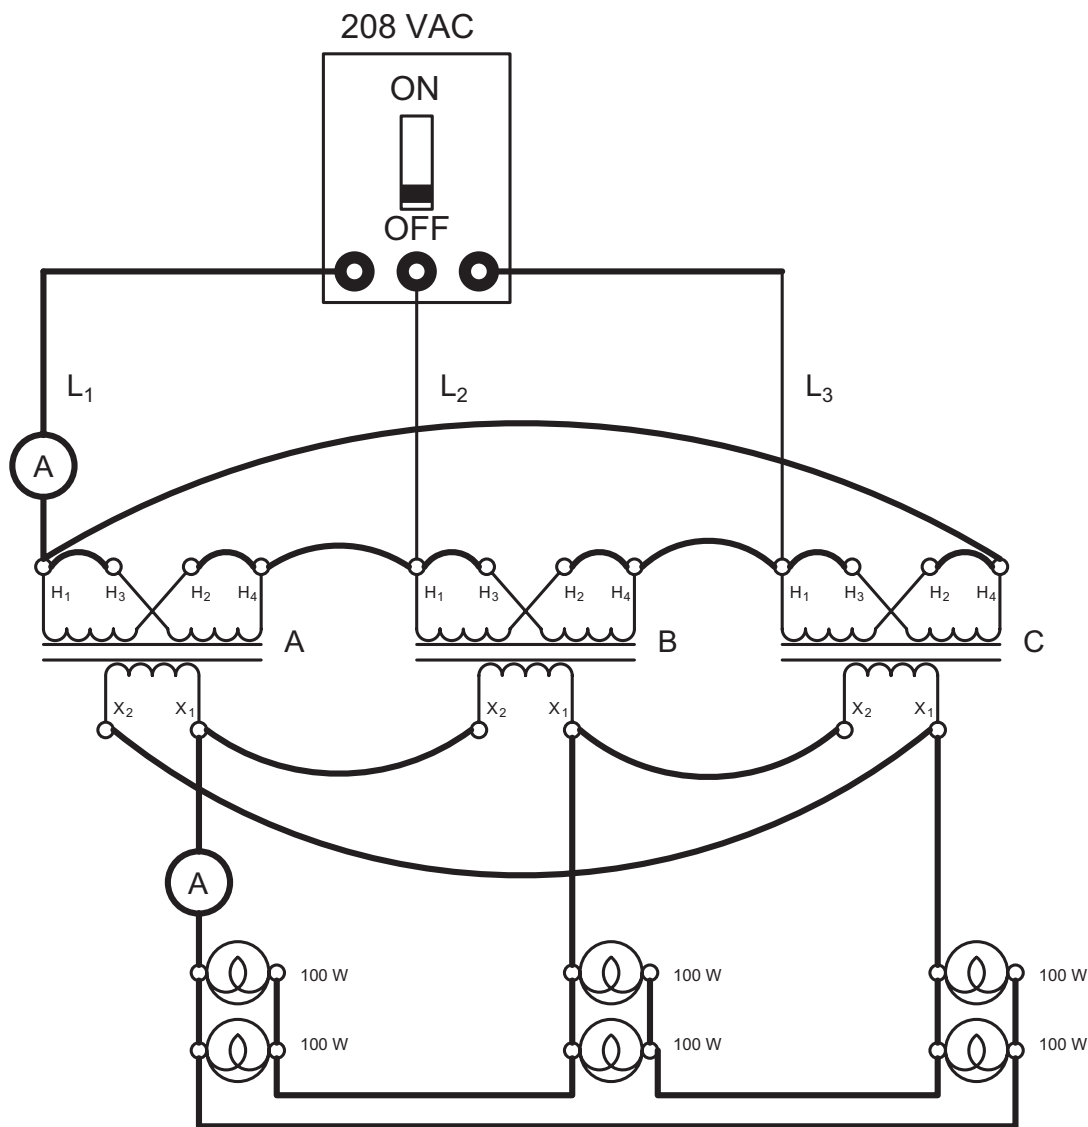

Figure 24-21 Changing the load from a wye connection to a delta connection.
29. Reconnect the lamps to form a delta connected load instead of a wye connected load. Each phase should have two 100 watt lamps connected in parallel as shown in Figure 24-21.